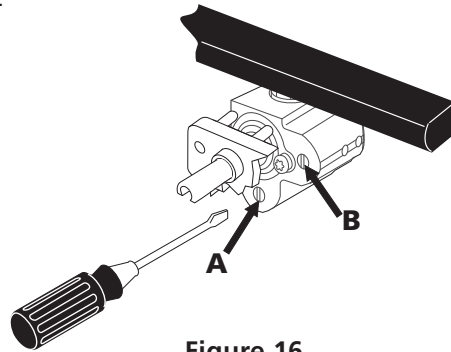

Figure 16
5. Adjust the "LOW" Setting of the Dual (Bridge) Surface Burner Valve (Figure 16):
- The rear portion of the bridge burner flame size can be increased or decreased by turning screw **A** (see Figure 16). Use screw **B** to adjust the flame size of the center portion of the bridge burner. Turn counterclockwise the screw to increase flame size. Turn clockwise the screw to decrease flame size. Adjust flame until you can quickly turn knob from LITE to LOWEST POSITION without extinguishing the flame. Flame should be as small as possible without going out.